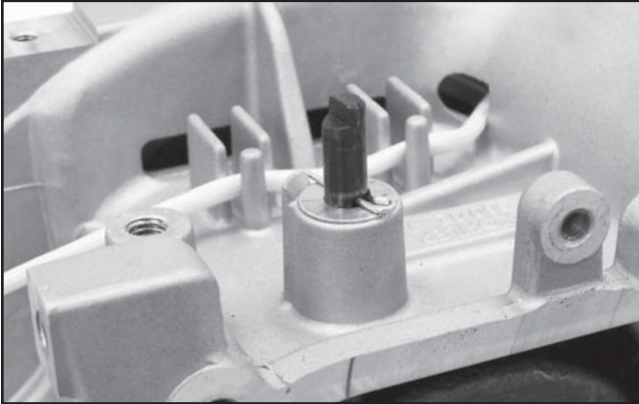

Figure 9-63. Removing Governor Cross Shaft Hitch Pin.
3. Remove the hitch pin and washer from the governor cross shaft. See Figure 9-63.